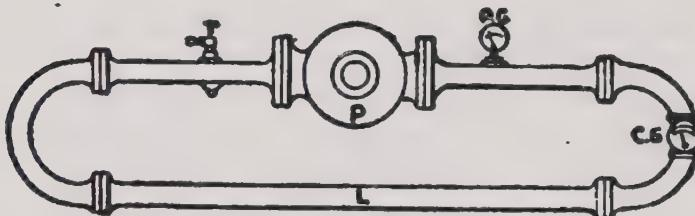
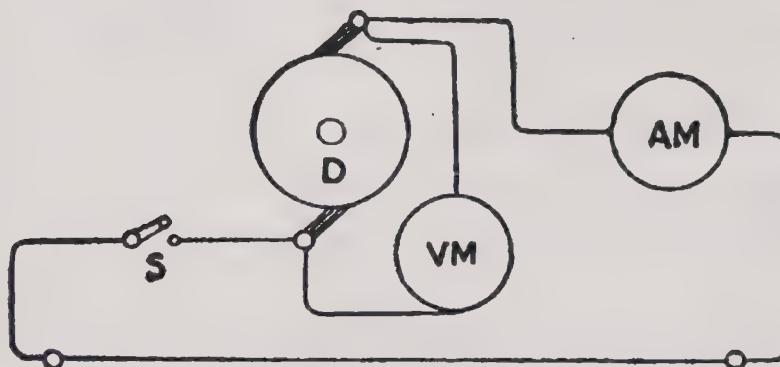

Fig. 139. Simple Hydraulic Circuit with Gauges.
Fig. 140. A Simple Series Circuit, with Instruments.
To make the analogy between the water system and the electrical system more correct, we should suppose a closed circuit of pipes, as shown in Fig. 139, completely filled with water, having a rotary pump P in the circuit, and furnished with a tap R a pressure gauge PG, and a current gauge C G.
In the same way we have to think of an electrical circuit (Fig. 140). The dynamo D is simply a device for producing a difference of electrical pressure, and is put into the circuit to act exactly as the pump does in Fig. 139 if we switch on S, which is comparable with turning on the tap in Fig. 139, and start the dynamo working, the pressure gauge (called the voltmeter) VM will indicate a difference of electrical pressure or an E. M. F., and the current gauge (called an ampere-meter, or for brevity an ammeter) will indicate a current flowing round the circuit. In this case we are not generating electricity, but simply putting into motion electricity that was already there.
Going back to Fig. 139, suppose we turn off the tap T and keep the pump working, then the current meter will indicate no current, but the pressure gauge will indicate a slightly higher pressure than before. Here we have a water-moving force, but the resistance in the circuit is now exceedingly great, consequently no current can flow.
Similarly in Fig. 140 if we switch off, still keeping the dynamo running, the voltmeter will show a slightly higher pressure, while the ammeter will indicate no current. Here again we have the one essential for a flow of electricity round the circuit, but not the other, for in switching off we have introduced into the circuit an enormous resistance.
Let us return again to our water circuit (Fig. 139) and examine it more closely. Imagine the system to be quite full of water, and remember that water is a practically incompressible fluid. If now we have our pump at work with the tap turned off, we shall have a difference of pressure between the two sides of the pump but no current. The moment we turn the tap on the current
This is exactly the case with the current in Fig. 140. If the dynamo be at work we have an E. M. F. in the circuit, but while the switch is off no current can flow. The moment we switch on there is a current in the cir-
i. The E. M. F. in a simple circuit (Fig. 140) is 100 volts, the resistance of the whole circuit is 50 Ohms. What current will flow through the circuit?